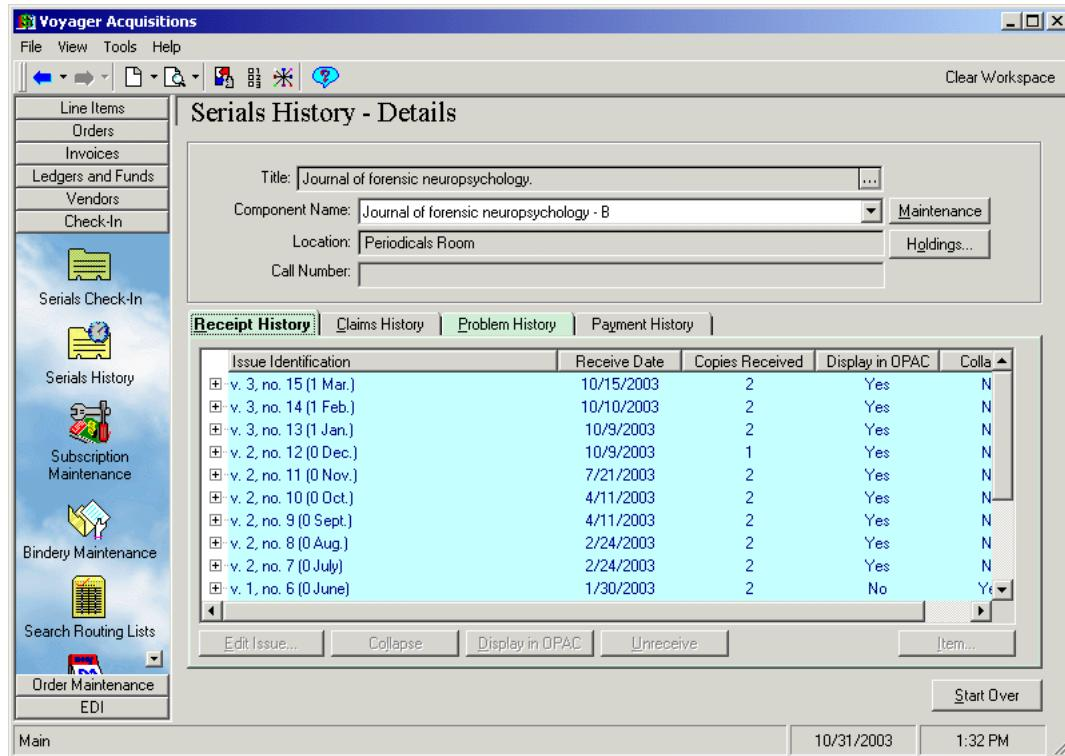

Figure 13-9. Serials History workspace - ellipsis displayed beside the Title field
- The ellipsis button beside the **Title** field at the top of the **Serials History** workspace (see Figure 13-9). There are numerous ways to display the **Serials History** workspace. See Serials History Information on page 9-27 for more information.